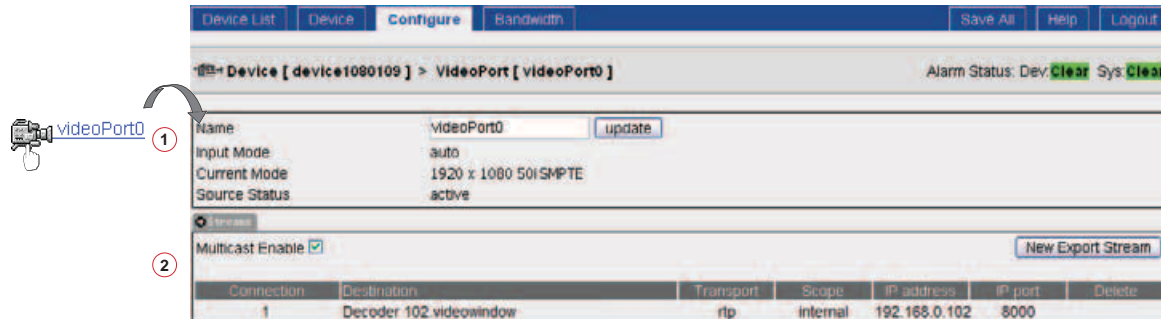

Figure 26. Video Encoder Configuration Page
The video encoder configuration page (see figure 26) is accessed by clicking the video icon in the configuration panel of the device page and consists of two panels. This page also provides access to the bandwidth management page via the **Bandwidth** tab (see “Bandwidth Management Page and Typical Bit Rates”).
The top panel of the video encoder configuration page (① on figure 26) provides the following information:
The bottom, Streams, panel of the video encoder Configuration page (② on figure 26) provides details of any active video encoder streams. The data transport method, TCP or RTP, is defined on the decoder configuration page (see “Configure Encoders or Decoders”). Multicasting is selected on this page (see “Enable multicast streaming” to select the multicast and “Data Transport Methods” for definitions of the methods).